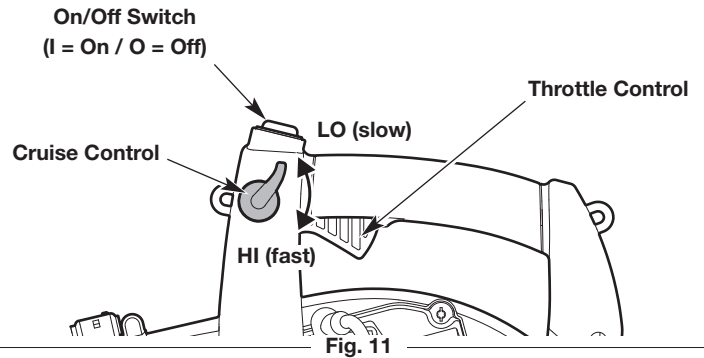

Fig. 11
**NOTE:** There is no need to turn the unit on. The On/Off switch is in the **On (I)** position at all times (Fig. 11).
2. Move the cruise control to the **LO (slow)** position (Fig. 11).
**NOTE:** Keep the cruise control in the **LO (slow)** position and **DO NOT** squeeze the throttle control (Fig. 11) until step 7.
7. Squeeze and hold the throttle control or move the cruise control to the **HI (fast)** position (Fig. 11).
2. Press and hold the On/Off switch in the **Off (O)** position until the engine comes to a complete stop (Fig. 11).
**NOTE:** There is no need to turn the unit on. The On/Off switch is in the **On (1)** position at all times (Fig. 11).
**NOTE: Keep the cruise control in the LO (slow) position and DO NOT squeeze the throttle control (Fig. 11) until step 9.**
9. Squeeze and hold the throttle control or move the cruise control to the **HI (fast)** position (Fig. 11).
2. Press and hold the On/Off switch in the **Off (0)** position until the engine comes to a complete stop (Fig. 11).
- Use the cruise control to make continuous operation easier (Fig. 11).